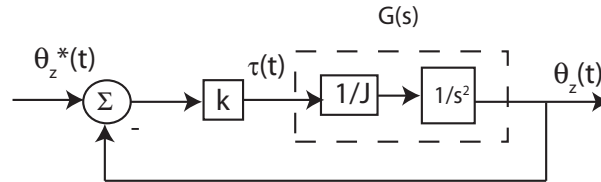

Figure 7: Continuous model of the wheel/motor system.
2. What effect does the value of the EDPOL bit in the eMIOS Channel Control Register have on the PWM output? Using the continuous time model of the wheel/motor system as an undamped double integrator (see Figure 7), find the locations of the closed loop poles if the EDPOL bit is set incorrectly.